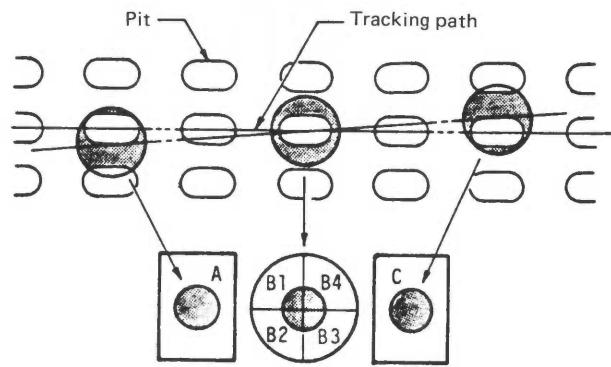

Fig.3-35 Detection of tracking error
(2) RF and servo signals
The beam, which has been reduced to an extremely small spot by the objective lens, now strikes the disc side on which the signal is located. Part of the beam is then reflected back to the objective lens and photo diode. A diagram showing how this beam is reflected off the disc is shown in figure 3-35. (A) shows what happens when the concentrated beam is directed at a pit. Normally, this reflected light would disrupt the output light beam. In the laser diodes used in CD players, however, noise is reduced instead, resulting in stable performance. This property is very advantageous for the half prism which allows only half of the light energy to pass.